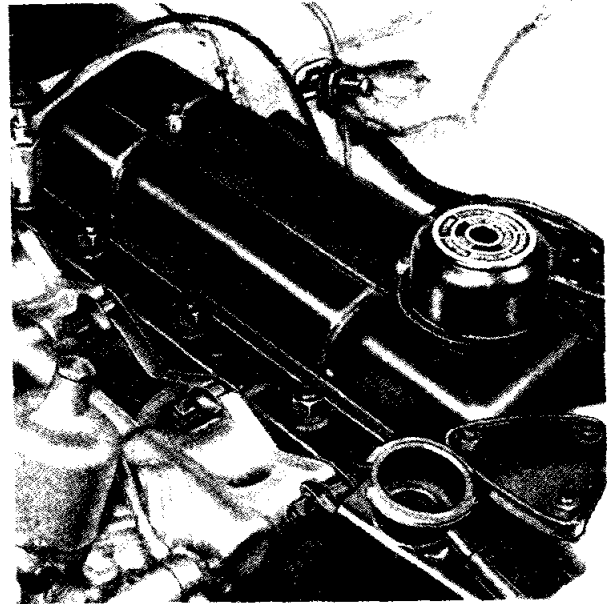

Fig. 9 Assembling Water Pipe Connecters
4. Install the taper threaded end of the female adapter (32) into the back of the pump housing. Attach the metal return pipe (29) to this adapter with the olive and union nut. Secure the pipe steady bracket to the rear of the two ignition coil fixing bolts.
5. Remove the two plates and rubber washers—one from each side of the bulkhead—after withdrawing the chamfer headed screws. Assemble the metal water pipe connectors (22) with their rubber washers (21) into these two apertures, securing each with two chamfer headed screws (Fig. 9).
6. Attach the two short lengths of rubber water hose (26) to the forward ends of these metal connectors, fitting the other ends of